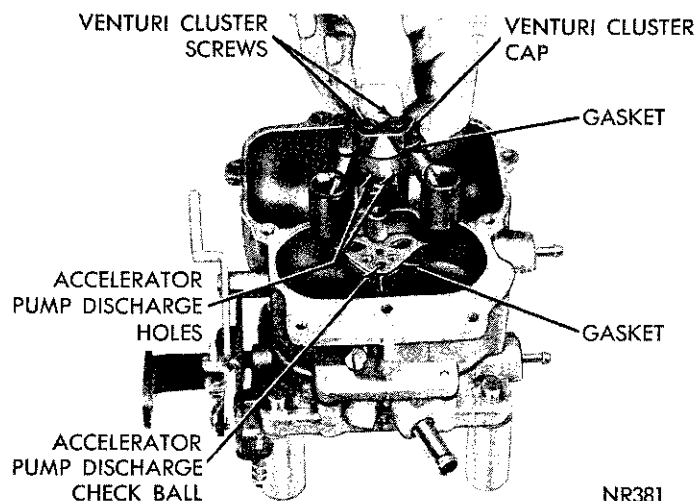

Fig. 6—Removing or Installing Venturi Cluster
(14) Remove venturi cluster screws, then lift venturi cluster and gaskets up and away from main body, (Fig. 6). Discard gaskets. **Do not remove idle orifice**